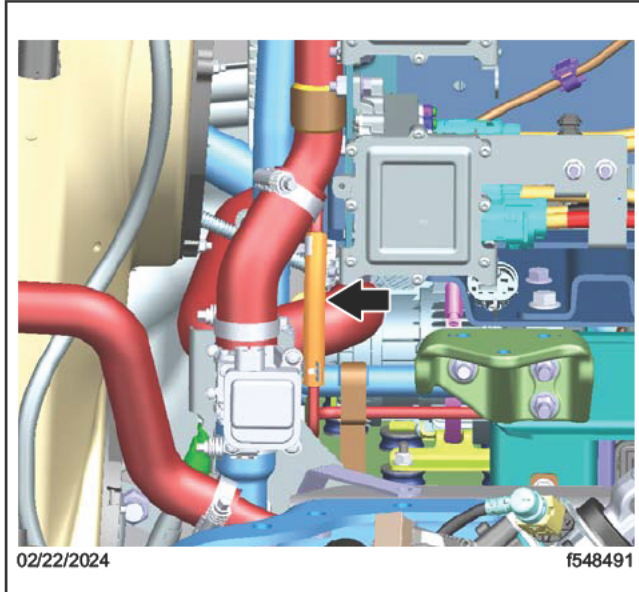
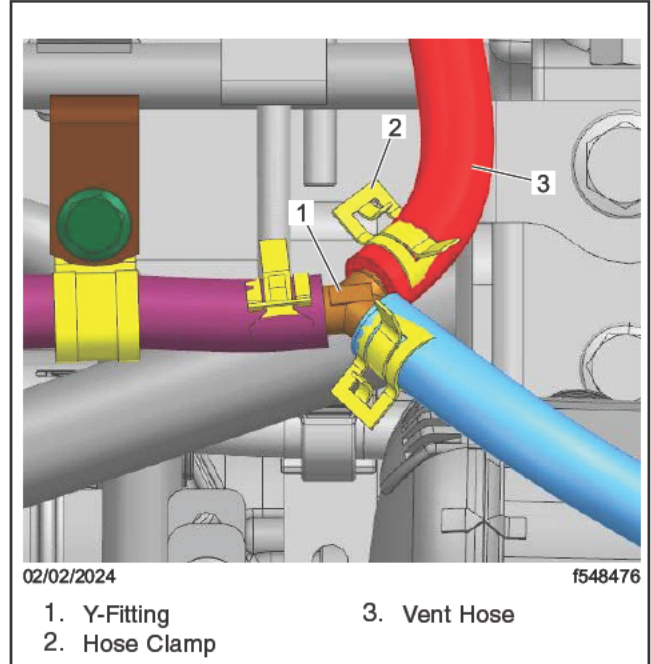

Fig. 12, Vent Line to Cut
Fig. 13, Y-Fitting
36. Cut the front portion of the vent line hose, and install the Y-fitting. See Fig. 12 and Fig. 13.